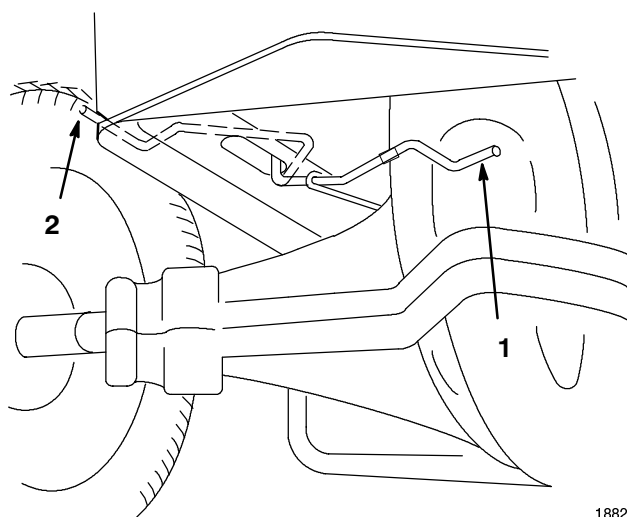

Figure 11
2. Move the drive control to the "PUSH" position. This disengages the drive system and allows the wheels to turn freely (Fig. 11).
1. Move the drive control to the "OPERATE" position. This engages the drive system (Fig. 11).